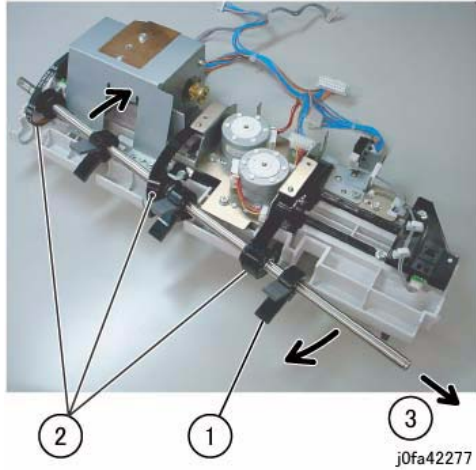

Figure 6 Removing the Set Clamp Shaft
10. Remove the Set Clamp Shaft (Figure 6):